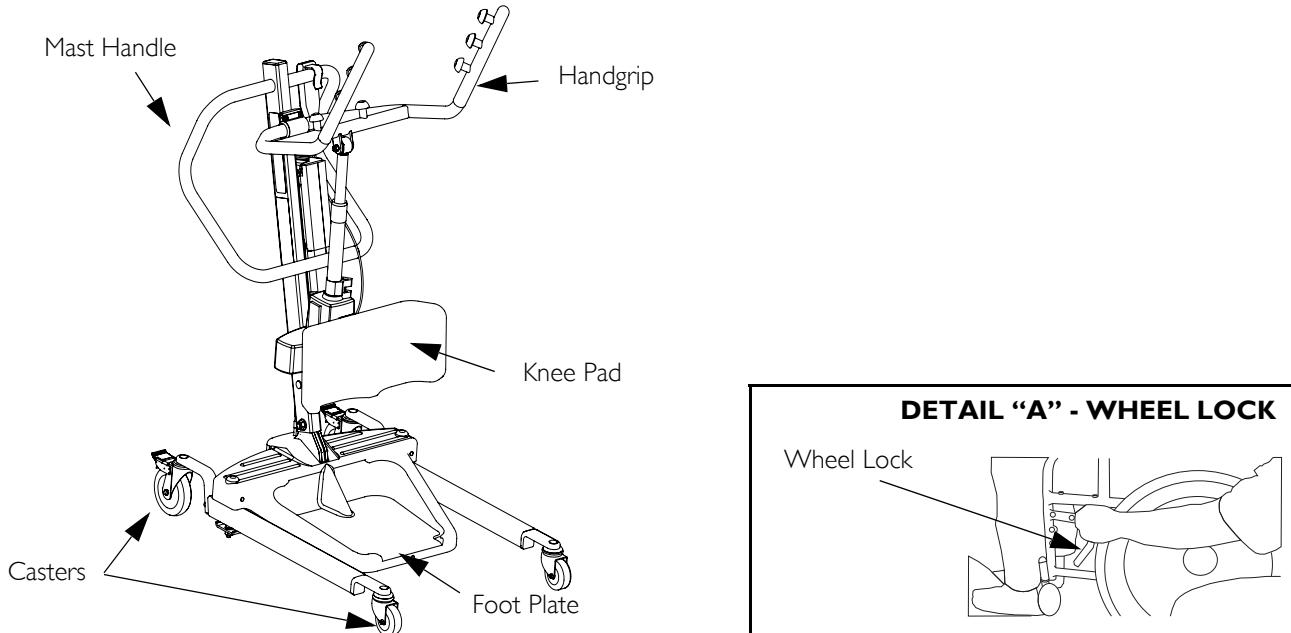

FIGURE 4.2 Lifting the Patient
NOTE: For this procedure, refer to FIGURE 4.2 on page 16.
1. Instruct the patient to hold onto the hand grips on both sides of the stand up lift (Detail "A" of FIGURE 4.2).
4. If transferring from a wheelchair, lock the wheel locks on the wheelchair (Detail "B" of FIGURE 4.2).